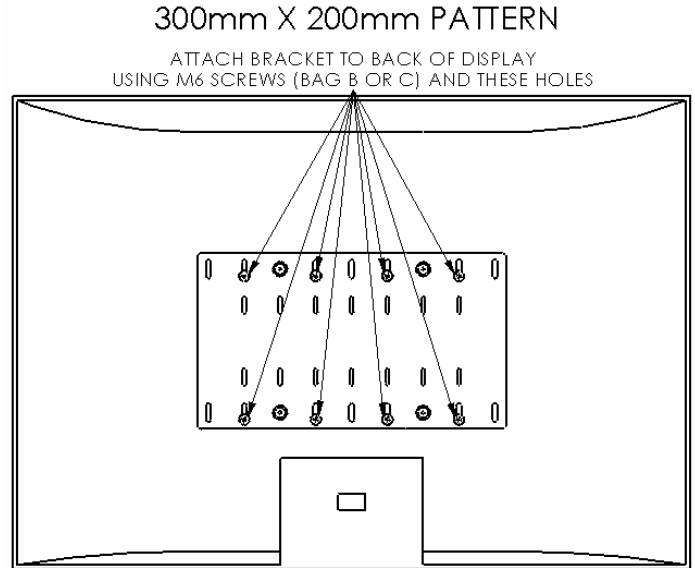

Figure 8. Display with 300mm x 200mm Hole Pattern
2. Attach the MSP-DELMBSV (10) using the hole-pattern on the back of your display as shown in Figure 8.